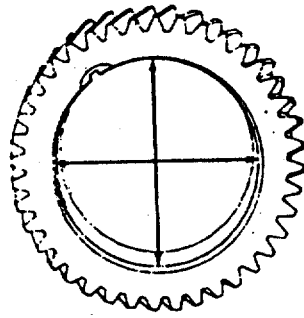

FIGURE 4-46. Measuring Crankshaft Bore.
- (1) Visually inspect the crankshaft gear for cracks and broken teeth.
- (2) Remove any burrs with fine crocus cloth.
- (3) Visually inspect the crankshaft gear fit area for burrs or damage.
- (4) Remove any burrs with fine crocus cloth.
- (5) Measure the crankshaft bore (FIGURE 4-46). It should be between 3.7557 inches (95.394 mm) and 3.7565 inches (95.415 mm).
- (6) Measure the crankshaft gear fit area outside diameter. It should be between 3.7600 inches (95.504 mm) and 3.7607 inches (95.522 mm).